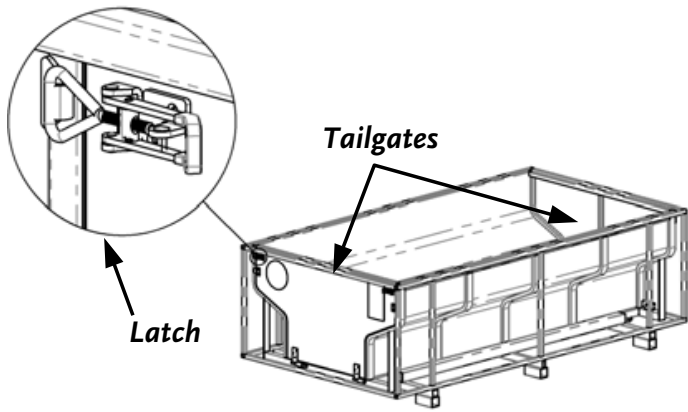

Figure 44
1. Remove the Bed from the steel-shipping Crate with the assistance of **at least** one other person by lifting the Bed straight up, and out of the Crate by the Tailgates. Make sure all four Latches on the Tailgates are properly latched (**Figure 44**) before lifting the Bed out of the Crate and placing it on the ground.